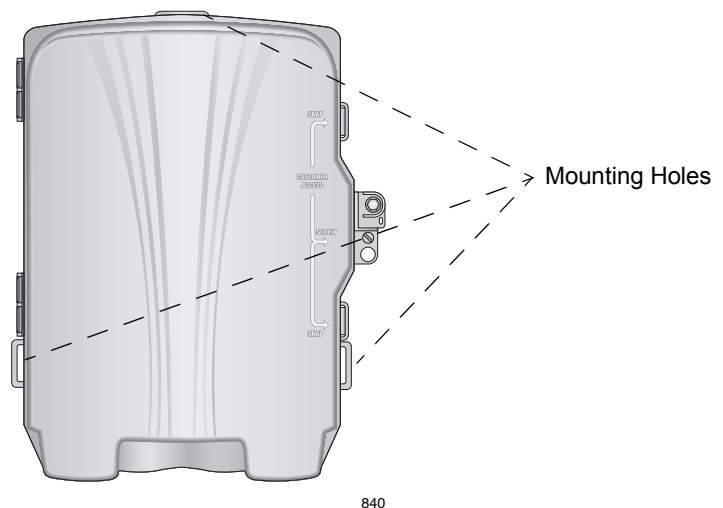

Figure 4. Mounting Hole Locations
4. Using the enclosure as a template, mark the three mounting holes on the wall, as shown in Figure 4, and prepare a mounting hole in the wall for each opening.